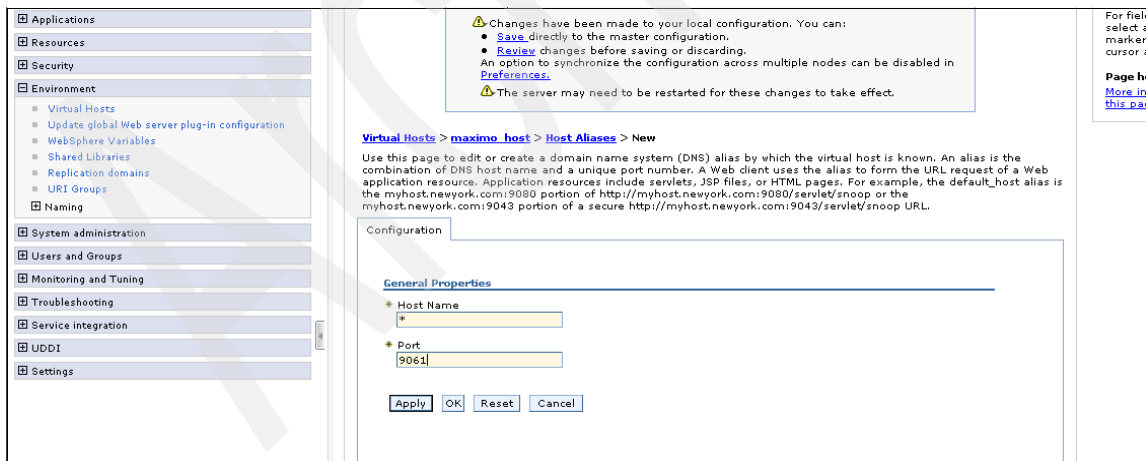

Figure A-16 Save HTTP port number
18. Apply the same procedure for ports: 9061 (see Figure A-16), 9443, 9080, and 9044.